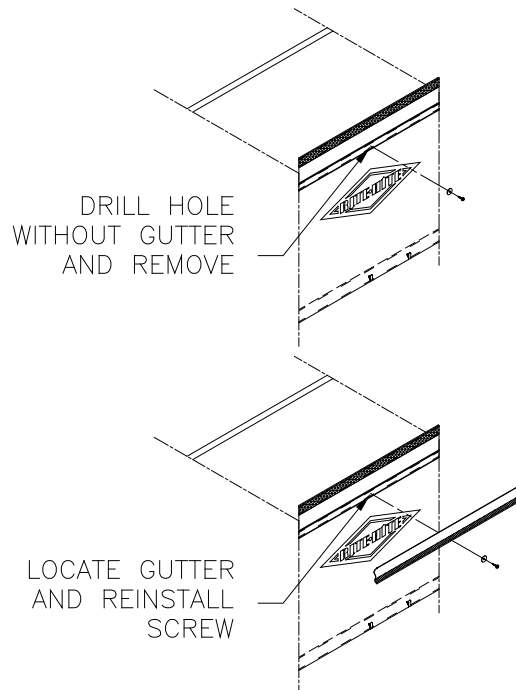

FIGURE 1
1. Before installing any of the screws that attach the curtain face, install only the center attachment screw for the curtain face. **(Note: Make sure the screw is centered on the bar or the gutter may get mounted to high.)** Do this without the gutter strip. This screw locates and temporarily holds the gutter strip in place during it's installation. (See Figure 1)
2. Now remove this screw. Locate the gutter strip center hole over the newly made hole from the tek-screw and screw in place. (See Figure 1) Before completely tightening the screw, rotate gutter strip into approximate parallel position to canopy front bar bottom edge. Then tighten the screw so it can hole gutter up, but take care in not stripping the screw out.